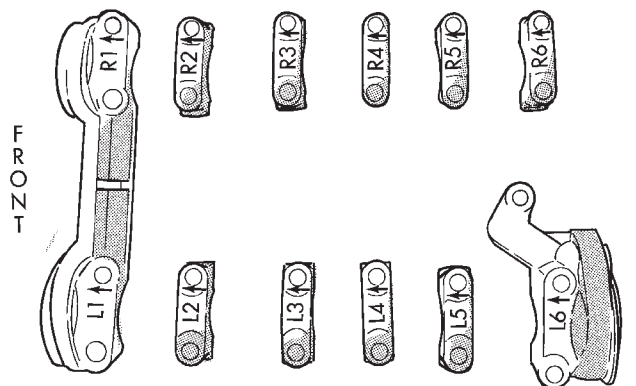

Fig. 27 Camshaft Bearing Cap Identification
- (1) Remove cylinder head cover using procedure outlined in this section.
- (2) Remove timing belt, sprockets and covers. Refer to Timing Belt Service outlined in this section.
- (3) Bearing caps are identified for location. Remove the outside bearing caps first (Fig. 27).